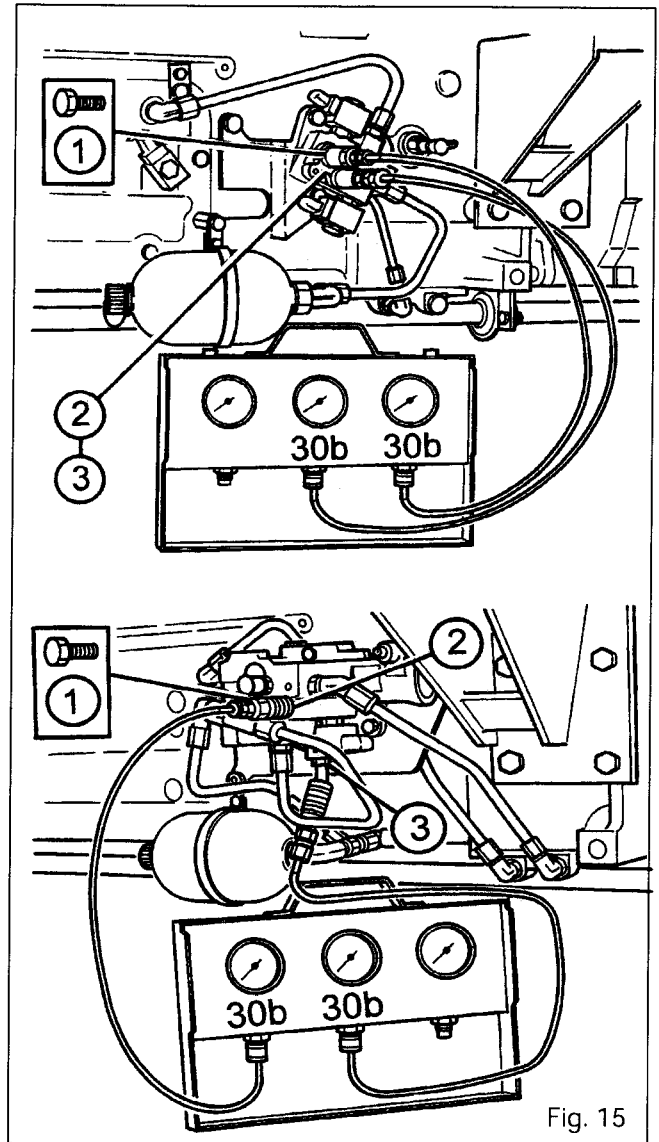

Fig. 15
- Screw on two male connectors **(2)** and **(3)**, ref. 3384387M1, and connect them to diagnostic connectors fitted on pressure gauges with a capacity of approximately 30 bars (Figures 15 and 16).